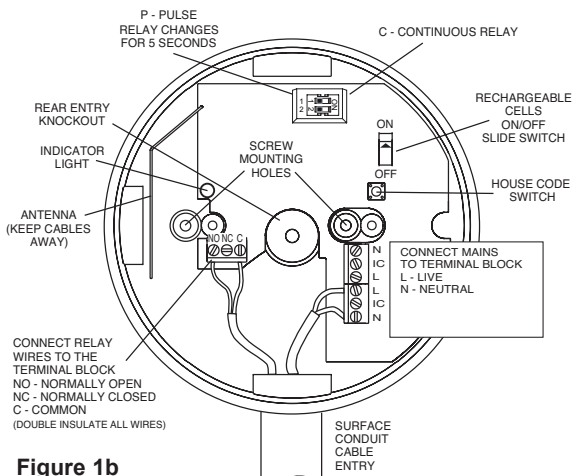

Figure 1b
3. Where the incoming wiring is on the surface of the wall/ceiling, the appropriately sized trunking / conduit must be chosen to mate with the unit. Use a sharp knife to remove the material from the knockout, making sure that there is no gap when mated with trunking/conduit. There is one suitable surface cabling knockout (the other two surface entries are not recommended as the wiring will reduce the antenna signal). There is one rear entry knockout. See figure 1b.
4. Screw the Ei428 module to the wall after first removing the required knockout and bringing the house wires through it (see figure 1b).
5. Connect the house wires (L-Live to wires coloured brown, red or marked L, N-Neutral to wires coloured blue, black or marked N) to the terminal block as shown in figure 1b.
If momentary relay operation is required, carefully and gently slide the yellow switch to the “P” position with a small screwdriver (see figure 1b). This is commonly used with warden call systems where only momentary short circuit signalling is required. This **must** be done before the mains power is connected or the rechargeable cells are activated.
7. Connect the rechargeable cells by carefully and gently sliding the switch to the “ON” position (see figure 1b). This switch must be in the ‘on’ position to ensure correct operation.
9. Connect the mains power to the Ei428 module. Check the green light is on. If the green light changes to red every 10 seconds then switch off the mains power, remove the cover and check that the battery slide switch is in the "ON" position (see figure 1b). Replace the cover and turn the mains power back on. If there is still a problem the rechargeable cells may be depleted, leave the unit on mains power for 2 hours to charge and test again.
(iii) The light flashing red every 10 seconds indicates a battery problem. Check that the slide switch is in the "ON" position (See fig 1b) and leave the battery to recharge for 2 hours before checking again. If the unit continues to flash red every 10 seconds then the unit is defective and must be replaced, see "Getting your Relay Base Serviced" section.
If your RadioLink Relay fails to work after you have carefully read all the instructions, checked that the unit has been installed correctly, and is receiving AC power (green light on) contact Customer Assistance at the nearest address given at the end of this leaflet. If it needs to be returned for repair or replacement, open cover and turn off rechargeable cells with slide switch (see fig 1b). Put the RadioLink Relay in a padded box and send it to "Customer Assistance and Information" at the nearest address given on the unit or in this leaflet. State the nature of the fault, where the RadioLink Base was purchased and date of purchase.